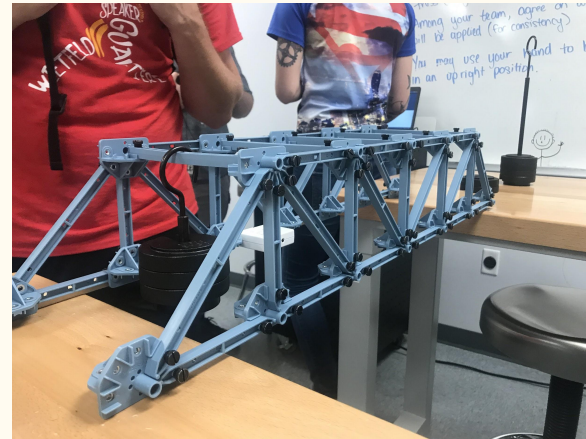

Fig 9
- Structure was tested by using a weight and sensor. (see fig 9)